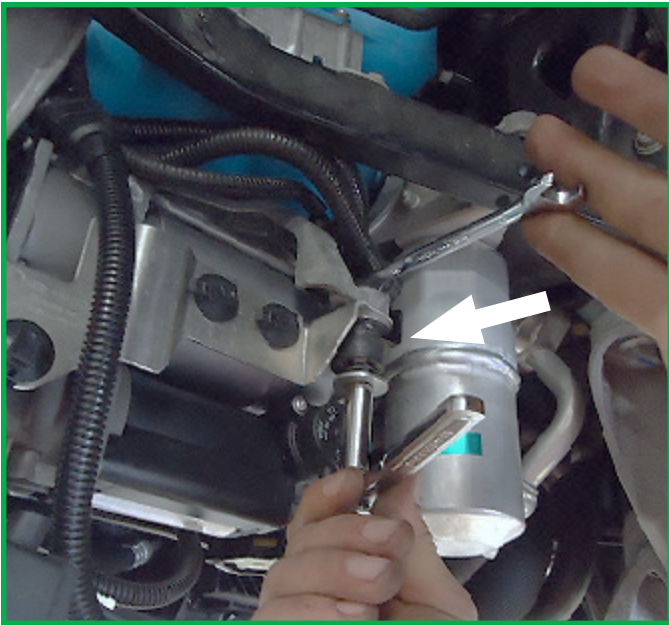

FIGURE 14
10. Locate and remove the three mounting nuts along with the mounting hardware. (Figures 14, 15, 16, 17, 18)